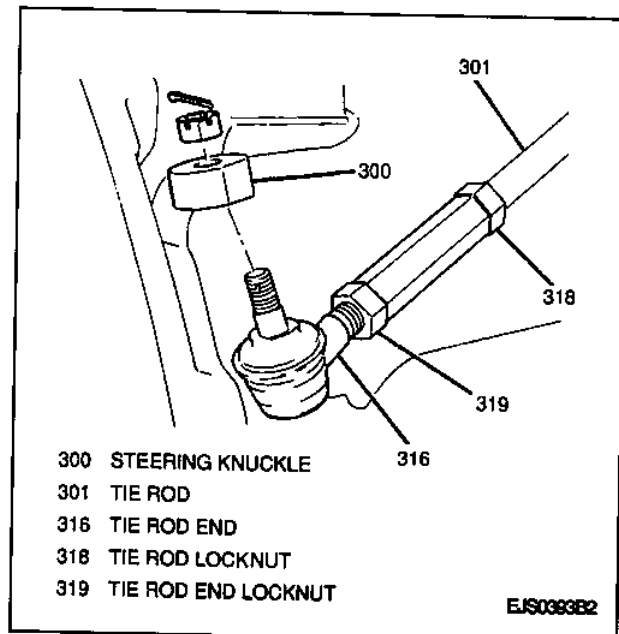

Figure 9—Tie Rod End
5. Loosen tie rod end locknut (Figure 9).
6. Tie rod end from tie rod connector sleeve (Figure 9).